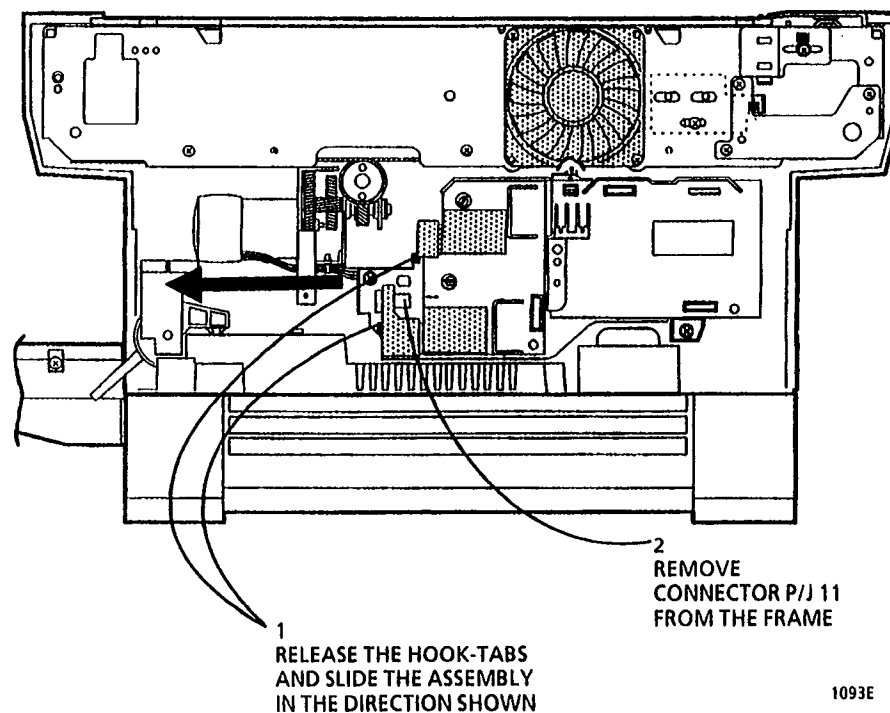

Figure 1. Removing the Charge and Transfer Corotron Terminals
4. (Figure 1): Remove the Charge and Transfer Corotron Terminals.